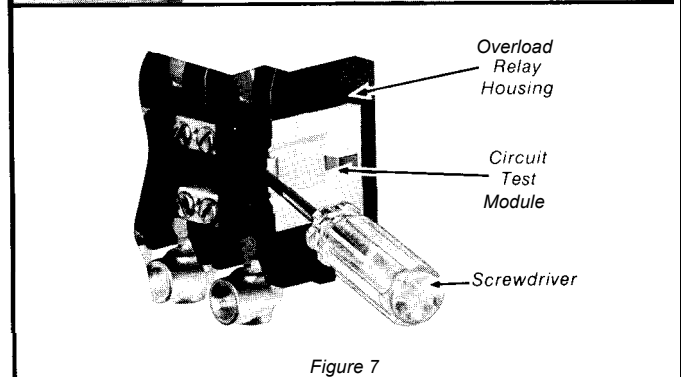

Figure 7
1. To remove, insert an appropriate size screwdriver in slot provided on the overload relay. Push toward mounting plate and simultaneously pull module from relay. Refer to Figure 7 on Page 5.
1. Insert proper size screwdriver in slot at the top of Circuit Test Module, press towards mounting plate and pull module from relay. (Refer to Figure 7).